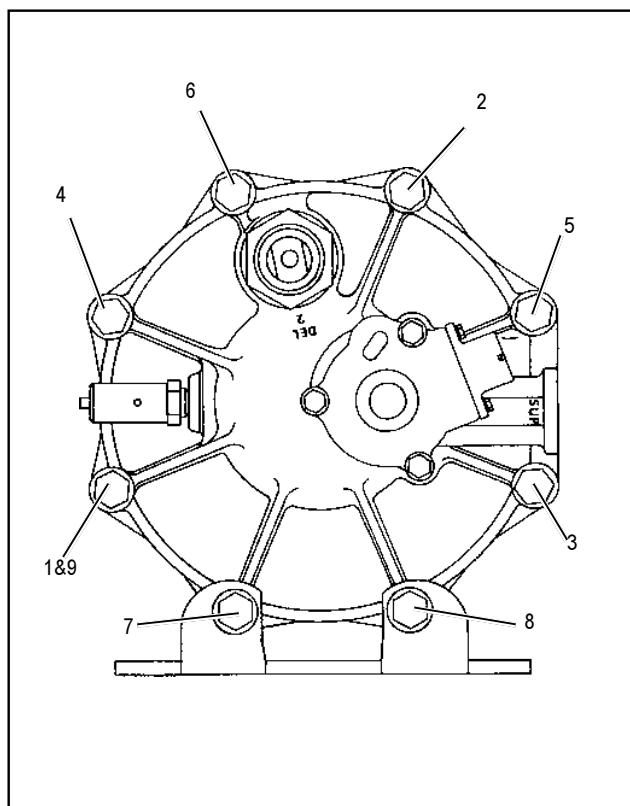

FIGURE 8 - END COVER TO HOUSING TORQUE PATTERN
4. Install the end cover outer housing o-ring (23) on the shoulder in the end cover. Place the housing (24) over the desiccant cartridge and align the holes. Install the six 3/8" cap screws (16), lock nuts (19) and twelve special washers (17) making certain they are in the proper position as marked during disassembly. The two longer 3/8" cap screws (18) will be used to secure the air dryer to its mounting bracket. Tighten the six cap screws and nuts in a star pattern in a fashion similar to Figure 8; depending on lower bracket location. Torque to 270-385 in. lbs. (Refer to Fig. 8.) **Note:** The two remaining bolt holes in the end cover and two 3/8" cap screws must be the ones marked during disassembly to assure proper orientation of the ports and adequate length of the cap screws.